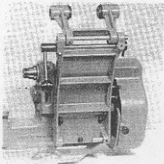

Fig. 4
a Mount the countershaft arm/swing head assembly (1) on the back of the Lathe bed, using the three ½" dia. x 1½" long B.S.F. screws and washers which are provided. See Fig. 4. Lightly tighten the screws only at this stage.